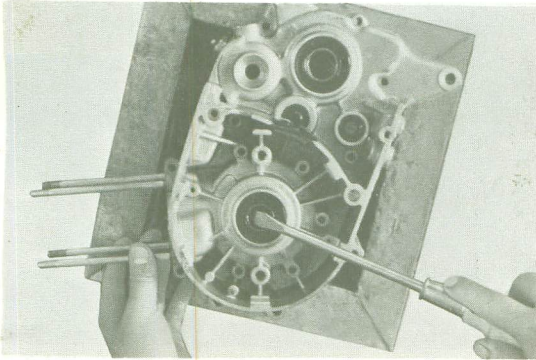

Fig. 4-18-2
- a. Pry the oil seals out of place with a slot-head screwdriver. (Fig. 4-18-2)